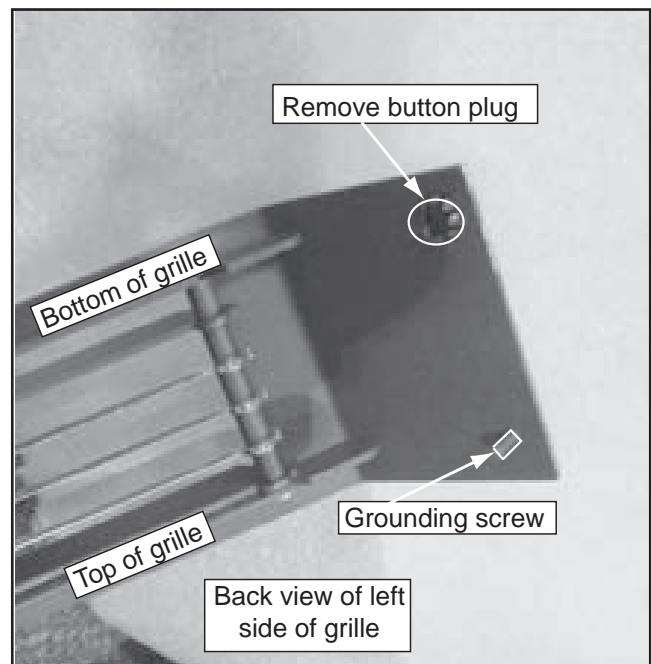

Figure 12.3
7. Remove the button plug from the left side of grille. Thread the blower cords wires through the hole and snap the strain relief in place. **Figure 12.3.**